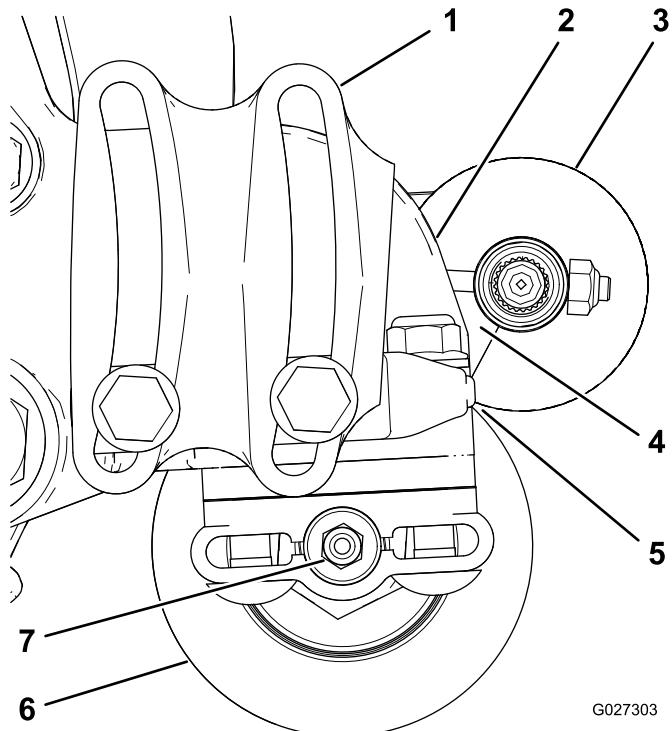

Figure 14
- Position the roller brush so that it is just touching or resting on the rear roller (Figure 14).